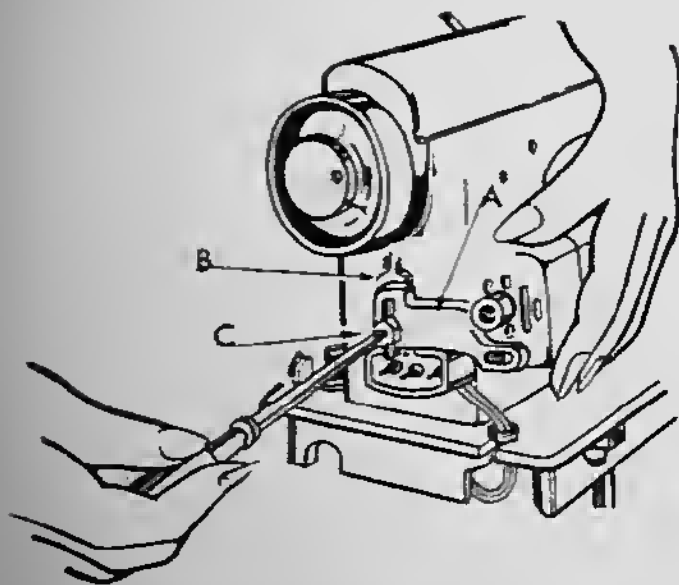

Fig. 1
Then insert the screw (C), and after shifting the motor upward as far as it will go, tighten the screw. (Fig. 1)